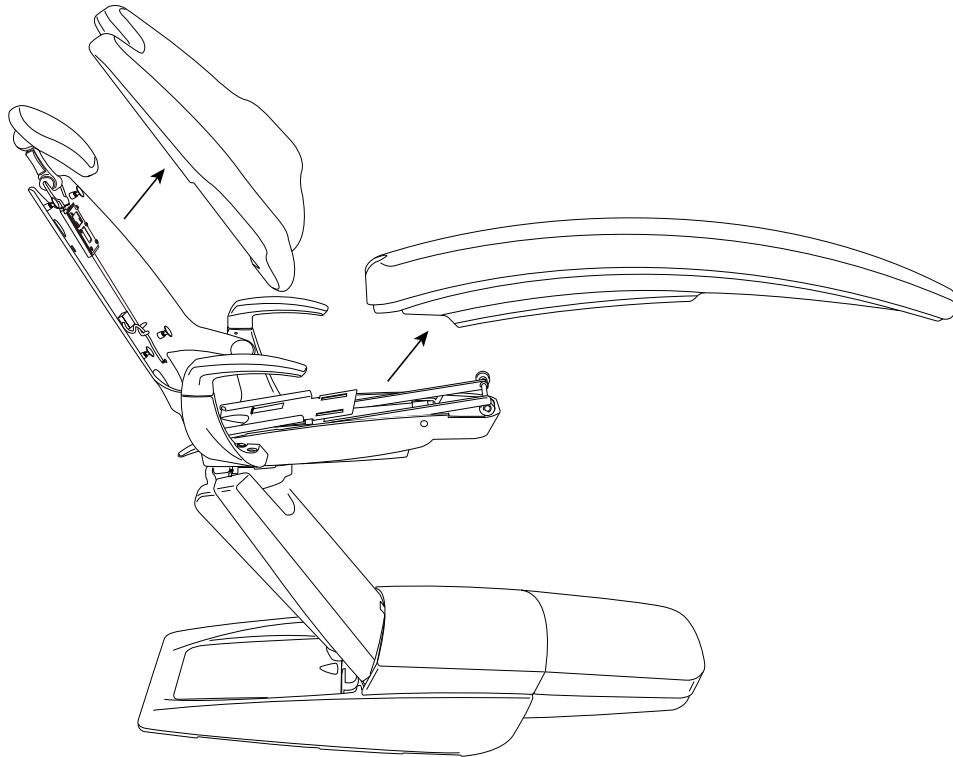

Figure 1. Removing the chair upholstery
- 1 Remove the chair upholstery (see Figure 1).